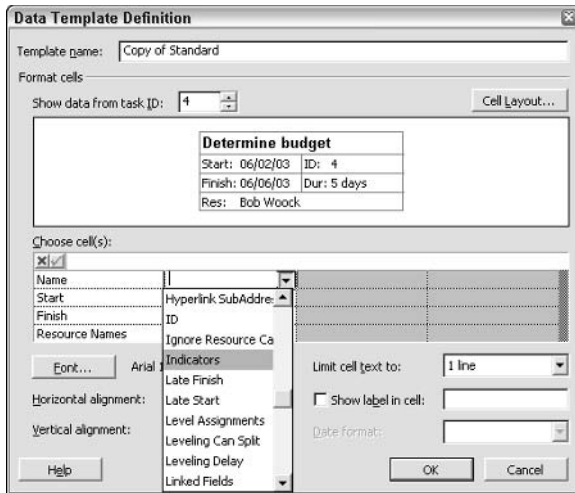

Figure 6-15: In the Box Styles dialog box, select the template that you want for the nodes in the diagram.
2. Click the More Templates button, as shown in Figure 6-15.
You can't edit the Standard template, but you can copy it, as I did in Figure 6-15.